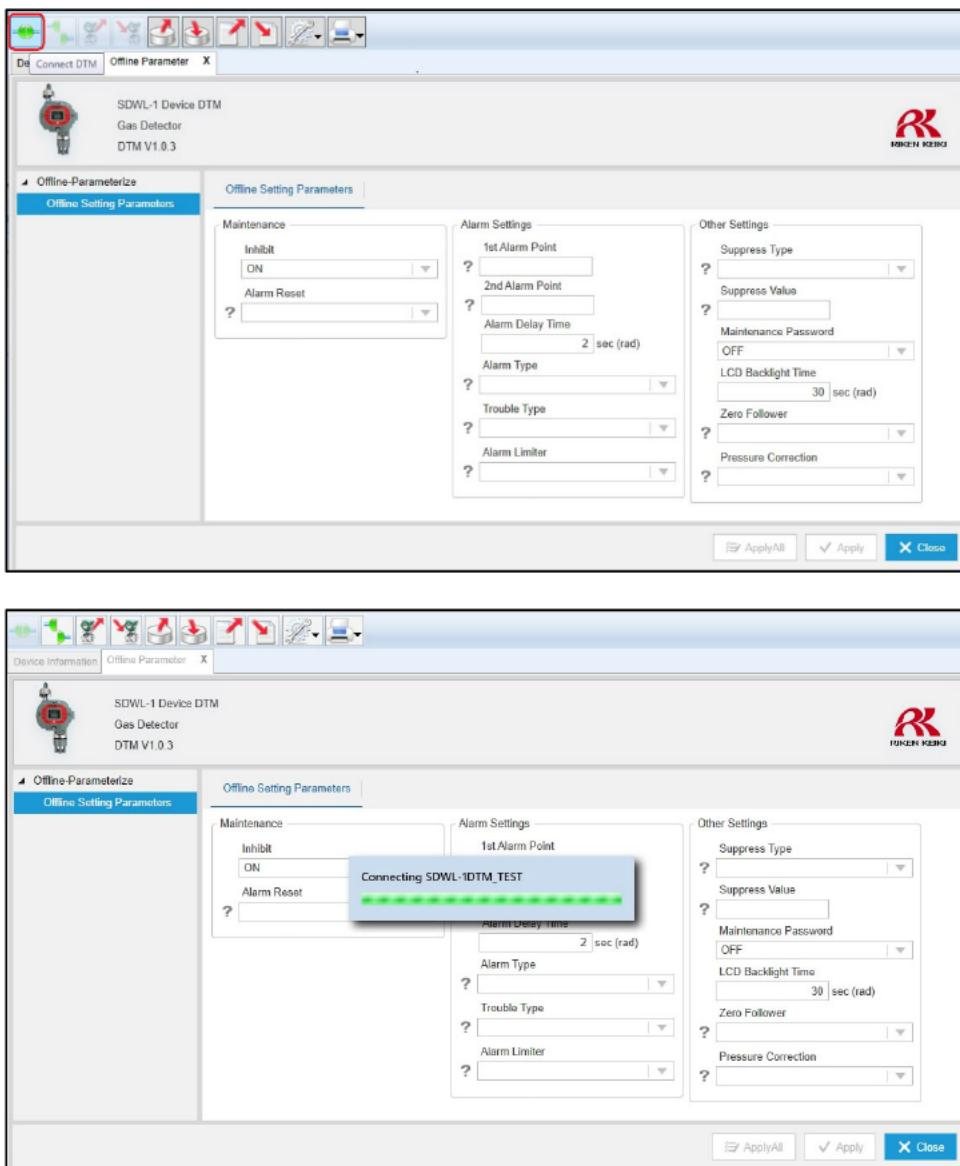

Figure 6-8 Connecting to SDWL-1
② Reconnect to the SDWL-1. (Figure 6-8)